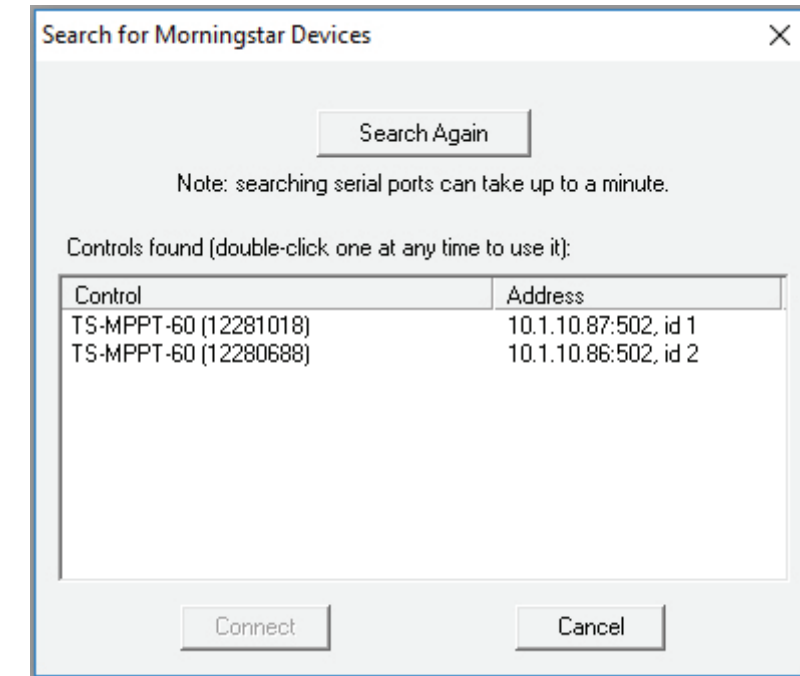

Figure 2a. MSView™ Search for Connected Devices Window
5. In figure 2a. above, notice that the controller model with the serial number is displayed on the left with the LAN IP Address and MODBUS™ ID Address displayed on the right.